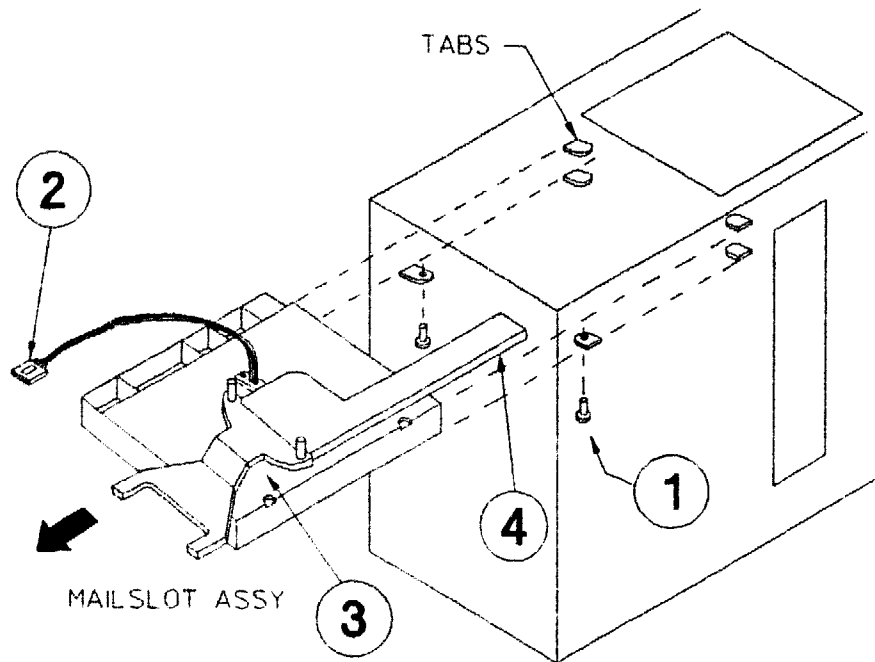

Figure 8-42. Removing the Mailslot Assembly
Refer to Figures 8-42 and 8-43.
2. Remove the two self-tapping screws on each side of the front of the mailslot (Figure 8-42 (1)).